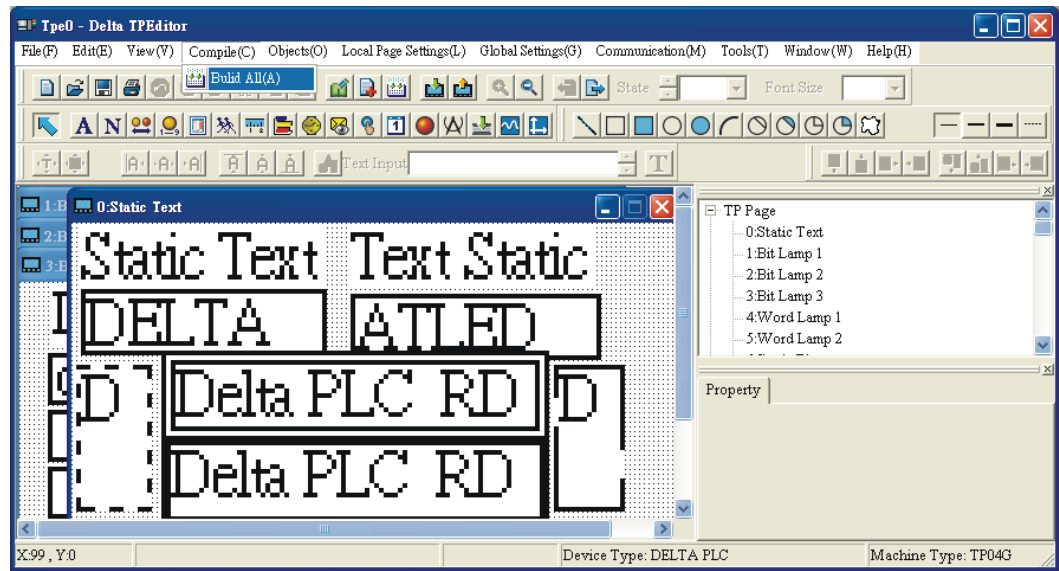

Figure 2-4
Step 1. After finishing the program editing in TPEditor, the program should be compiled first before downloading to TP series. Click  or choose **Compile(C) > Build All(A)** to compile the editing program (Figure 2-4).